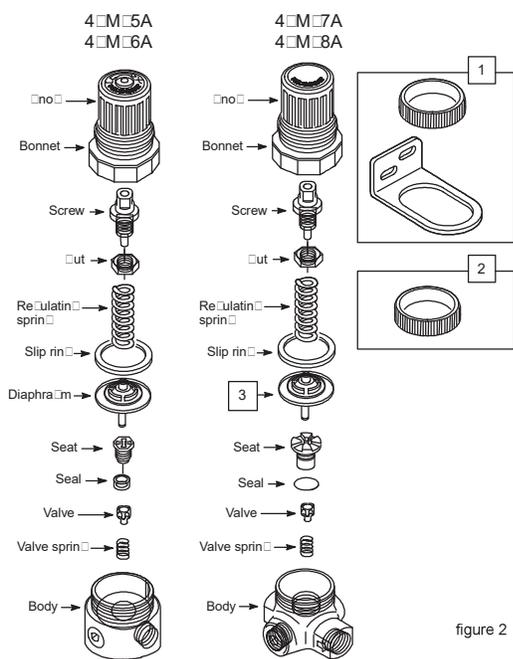

figure 2
OPERATING INSTRUCTIONS (See Figure 2)
- disassembly (See figure 2)**
- Disassemble in general accordance with the parts illustrated in Figure 2.
- cleaning(See figure 2)**
- assembly (See figure 2)**
- Assemble the unit as shown on Figure 2.